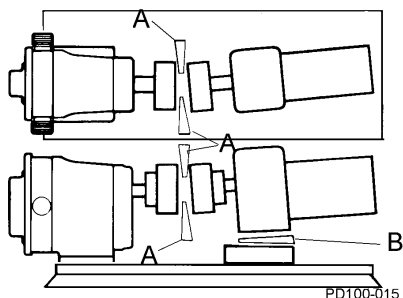

Figure 19 - Check Angular Alignment
- Using feeler gauges or taper gauges (Figure 19, items A and B), check the alignment at four points every 90 degrees around the coupling; **adjust to equal dimension at all points.**